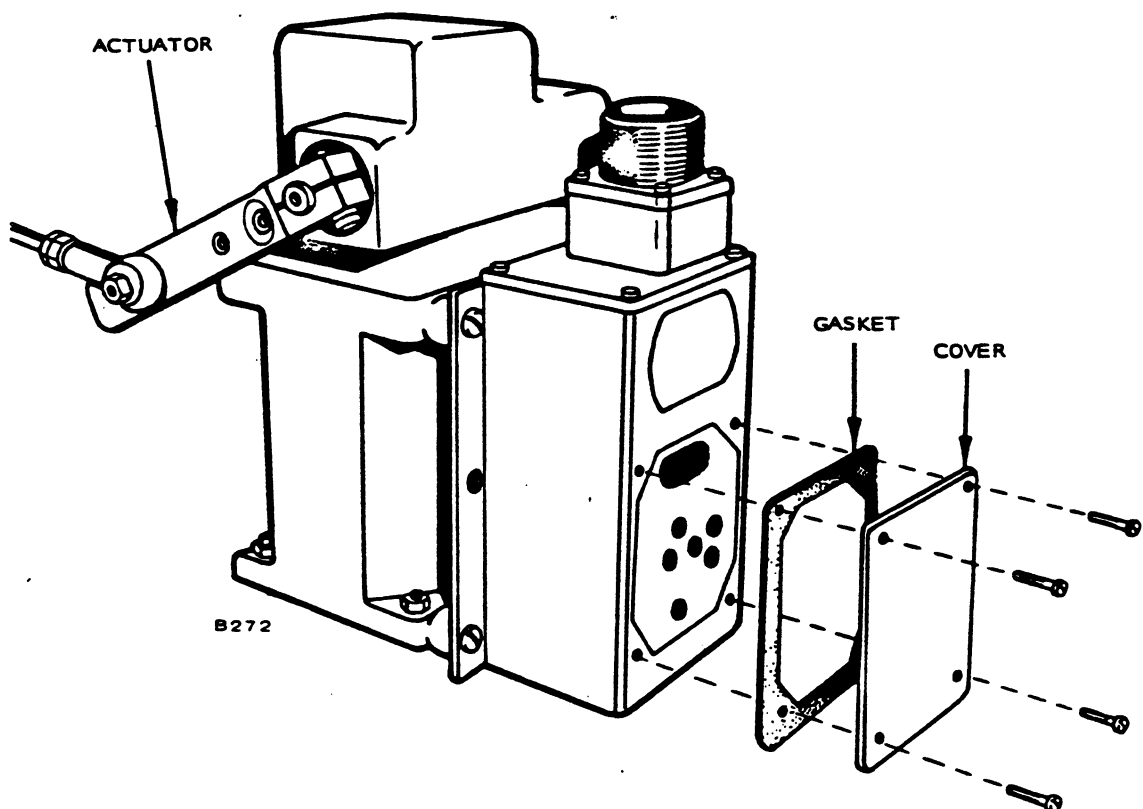

FIGURE 20. BARBER COLMAN GOVERNOR
1. Remove four screws and cover from governor controller (Figure 20).